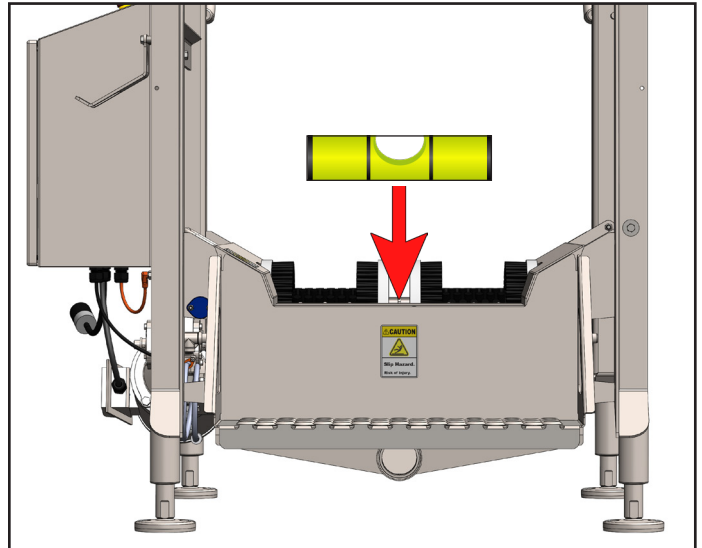

Fig. 34.1: Level and stabilize unit using level at each end of tub
3. Use a level to make sure the unit is stable and leveled at each end of the tub [Figure 34.1].